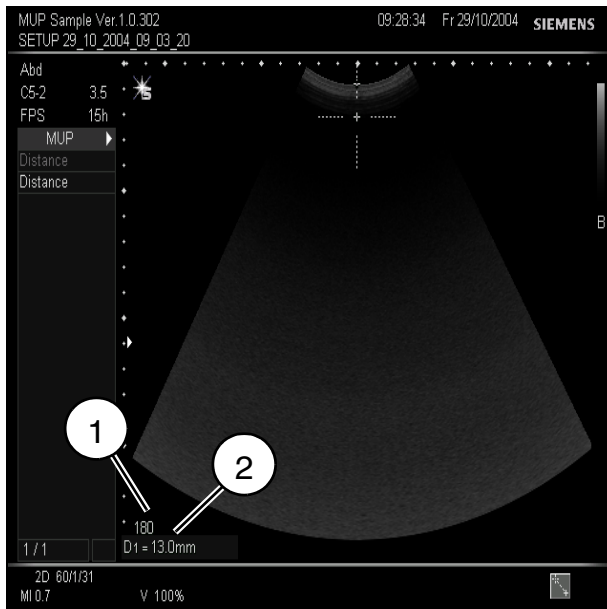

Fig. 3
- Set the value (1/Fig. 3, 4) to 180 with the "Image field/zoom" knob.
- Move to the center of the crosshair with the trackball. A value of  $13 \text{ mm} \pm 1 \text{ mm}$  (2/Fig. 3) must appear in the display (2/Fig. 3).